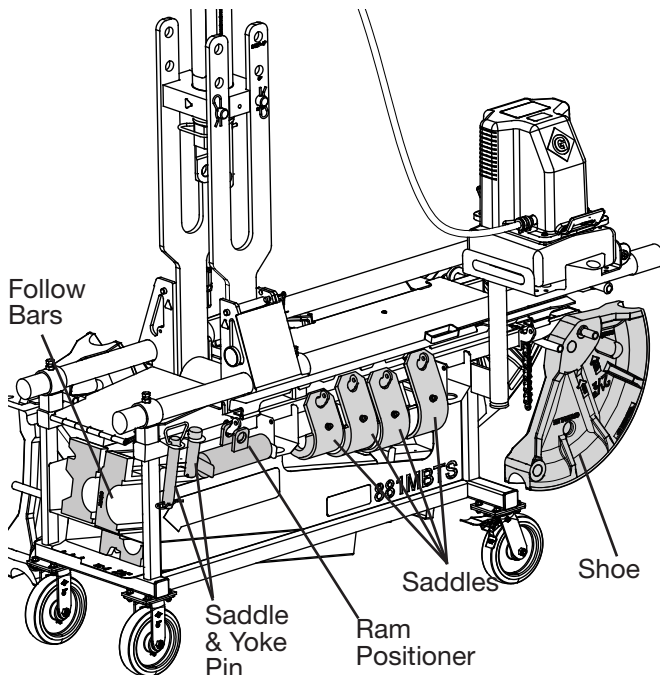

Figure 7
13. Load all accessories (Fig. 7 and 8).